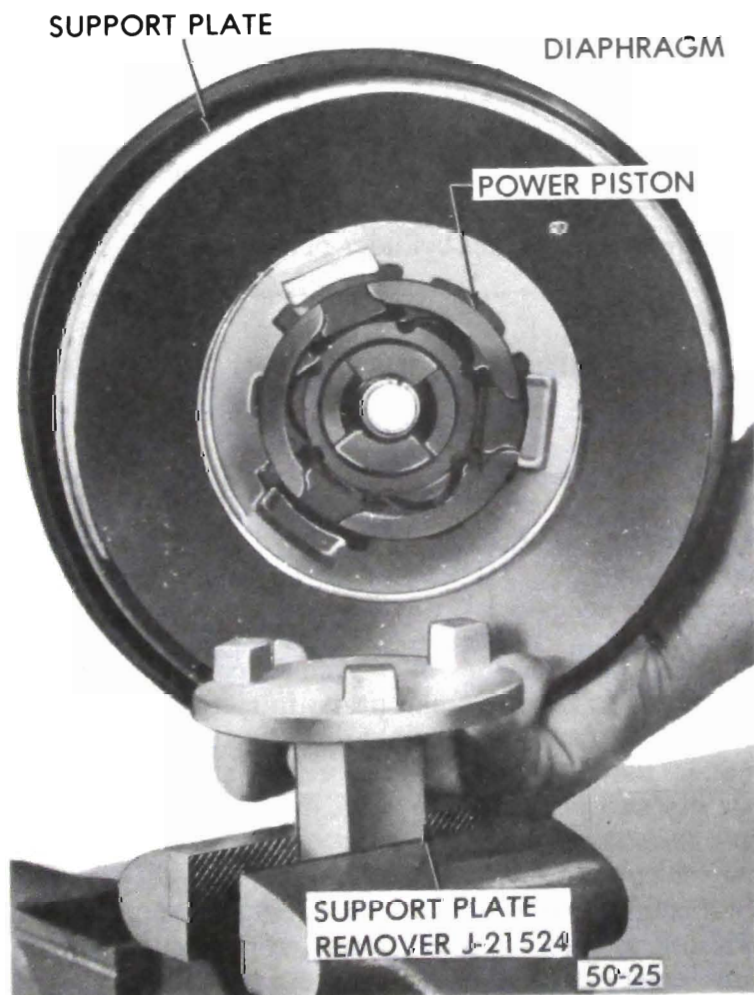

Figure 50-106 Positioning Support Plate Retainer in Vise
5. Place power piston Wrench J-21524 with square shank in vise. Hold support plate and power piston with tube of power piston up. See Figure 50-106.